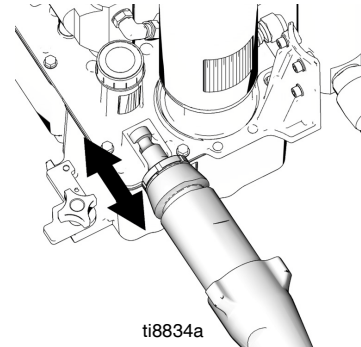

FIG. 19
9 (Fig. 19) Remove pump (111) from unit.